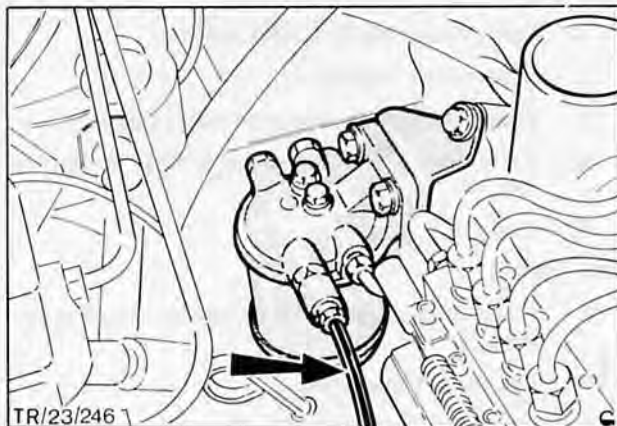

Fig. 74. Fuel pump to filter fuel line
3. Disconnect and remove pipe, Fig. 74.